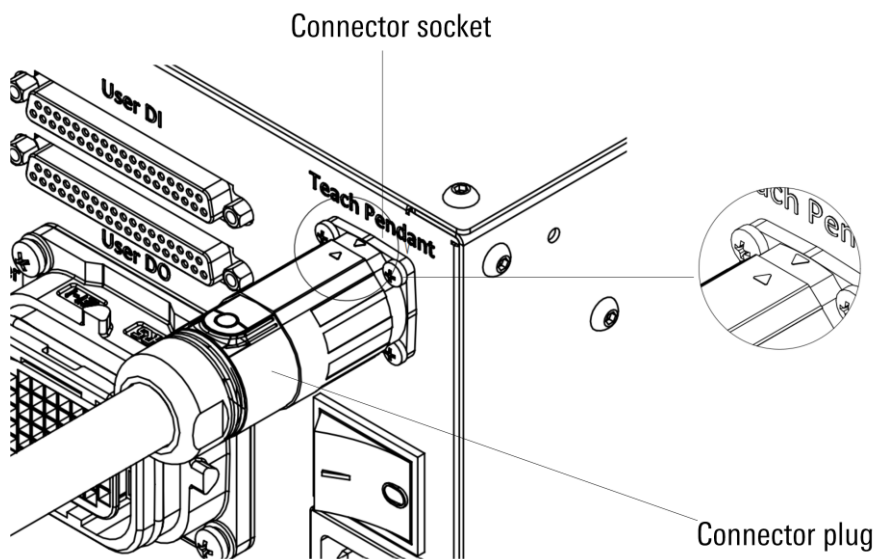

Figure 3-3 Teach pendant connection interface
The upper right corner of the front panel of the inCube2S-6 control cabinet is the teach pendant connection interface, which is connected by a quick-plug connector (see Figure 3-3).
Align the triangle symbol of the connector plug ① with the triangle symbol of the connector socket ② (as shown in the partial enlarged view of Figure 3-3), push in the connector plug ①, and rotate it 45° clockwise to make it align with the connector socket ② tight.